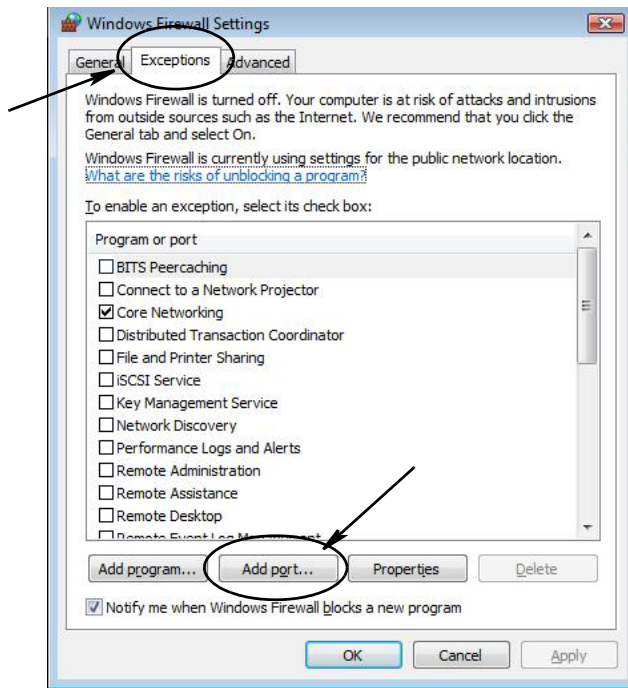

FIG. 34
3. If not already selected, click "Exceptions Tab to display contents (FIG. 34).
4. Click "Add Port" button (FIG. 34).